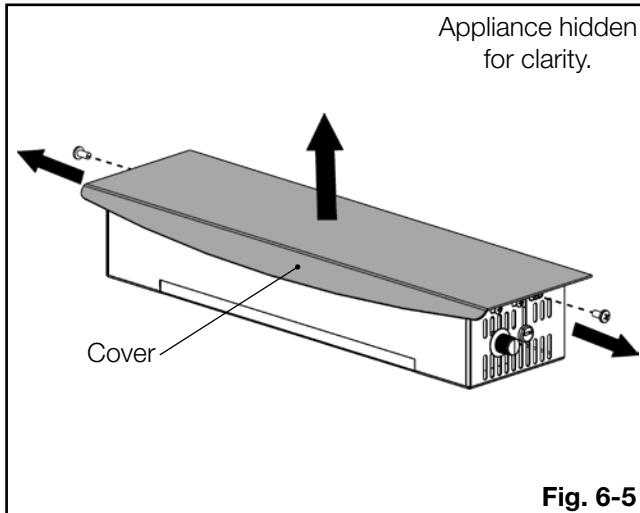

Fig. 6-5
- B. Remove the 2 screws securing the cover to the blower housing (**Fig. 6-5**). Set the cover and screws aside.